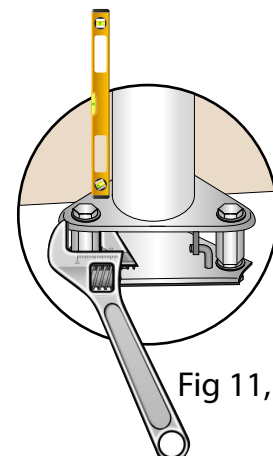

Fig 11,
14. Check the flagstaff is upright with a spirit level. Adjustments can be made by loosening the set screws and adjusting the long nut to bring the flagstaff perpendicular. (See Fig 11) Once satisfied, tighten the three flat nuts back up against the baseplate.